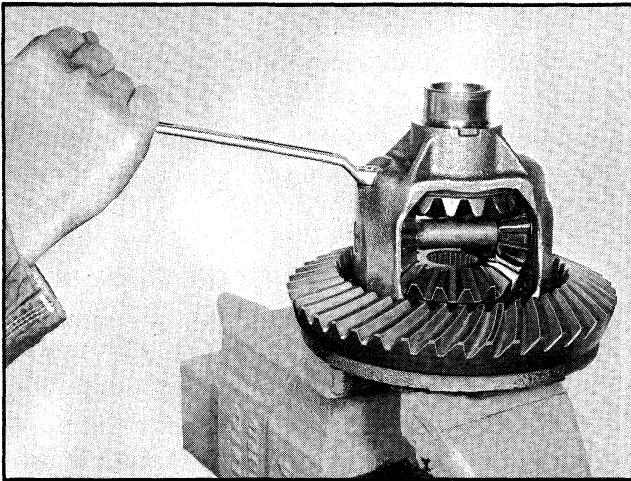

Fig. 4-27 Installing Pinion Shaft Locking Bolt
7. Install pinion shaft. Install pinion shaft retaining bolt. Torque to 10-20 lb. ft. (Fig. 4-27).